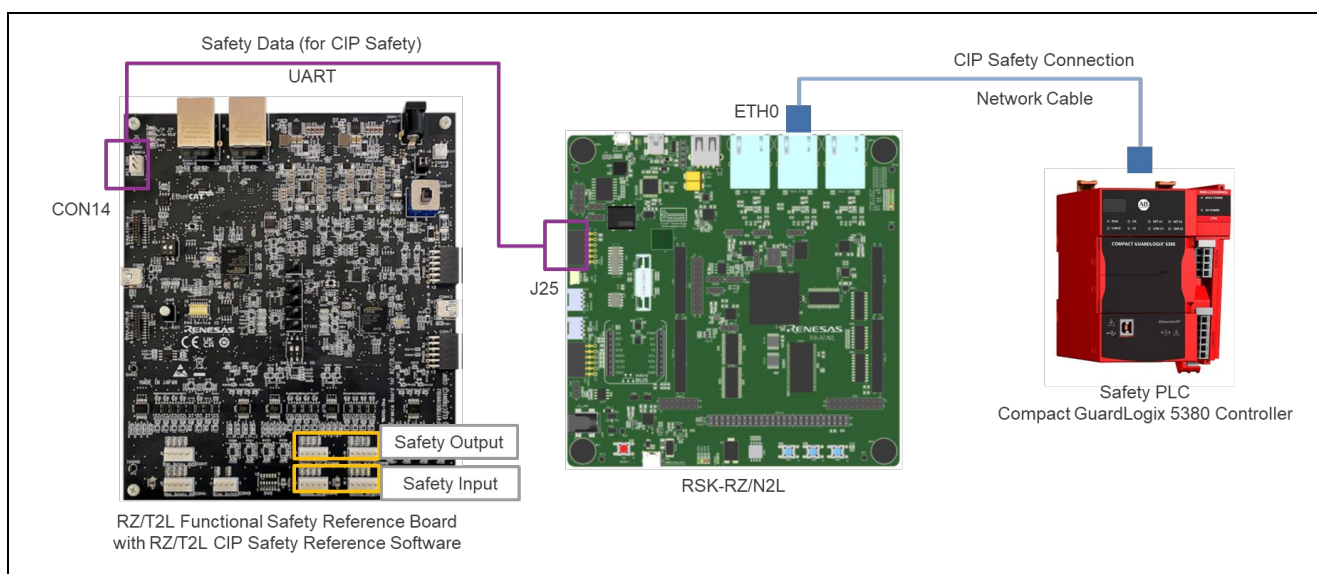

Figure 9-3 Topology when CIP Safety feature is enabled
4. Connect the devices as shown in Figure 9-3 and Table 9-3.